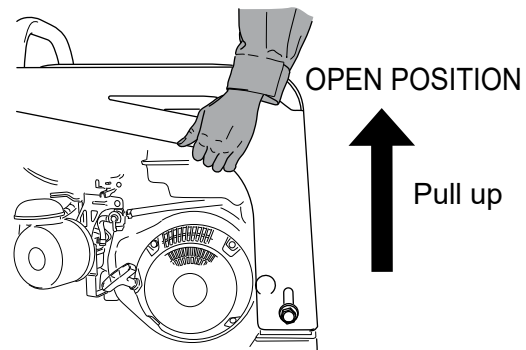

Figure 22. Pulling Up Front Cover
2. Hold the side of the front cover and pull up to open position (Figure 22).